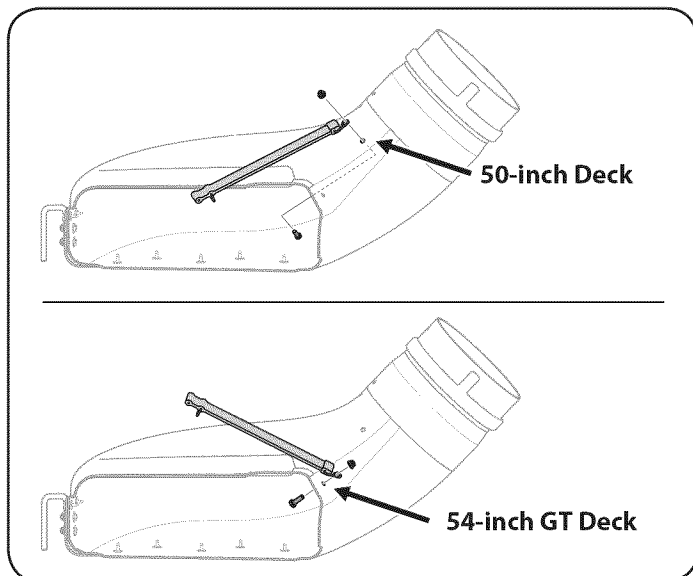

Figure 21
1. Secure the strap to the chute with the hex screw (710-3015) and flange nut (712-04064) provided in Hardware pack 689-00163. See Fig. 21.
Note: For all lawn tractors equipped with a 50-inch deck, secure the strap in the upper hole as shown in Fig. 21.
Note: For all tractors equipped with a 54-inch deck, secure the strap in the lower hole, as shown in Fig. 21.